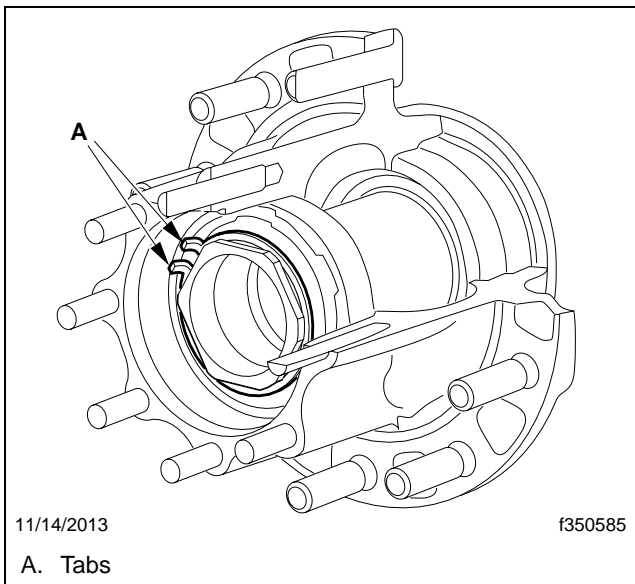

Fig. 2, Lock Ring, ConMet PreSet Plus Hub
9. Check for the presence of a lock ring. See **Fig. 2**.
- 11.2 Using the tabs, seat the lock ring in the machined grooves of the spindle nut. See **Fig. 2**.